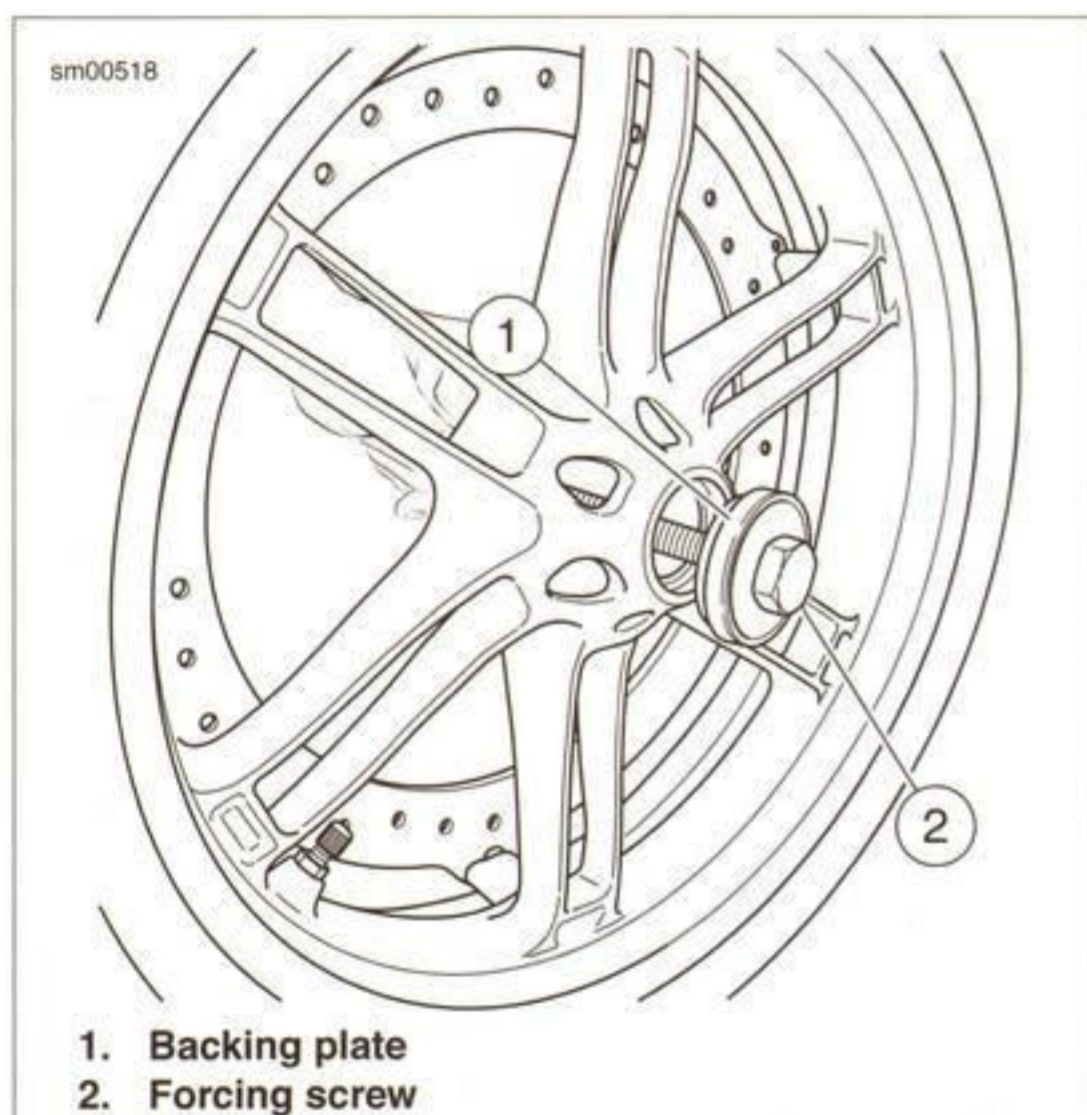

Figure 2-44. Install the Backing Plate (B-43993-12) and Forcing Screw
1. See Figure 2-44. Install the BACKING PLATE (Part No. B-43993-11) (1) onto the long forcing screw (2) from the WHEEL BEARING INSTALLER AND REMOVER (Part